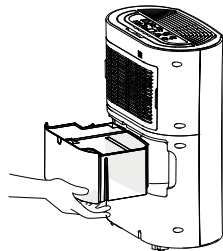

Fig. 2
1. Empty the water tank (7) when the appliance indicates the necessity by the red indicator light (2k) and after each use.
2. Grasp the tank handles with both hands and remove it firmly but gently from the case (Fig. 2).